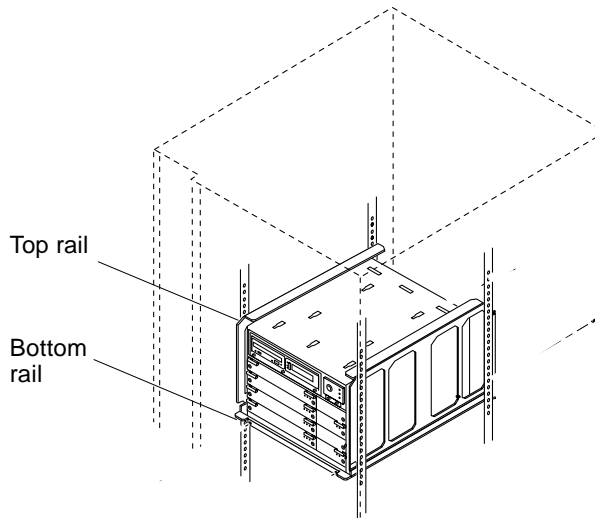

FIGURE 1-6 Top and Bottom Rails in System Cabinet
3. Lift and slide the system chassis into the system cabinet using the bottom rails as a guide (FIGURE 1-6).